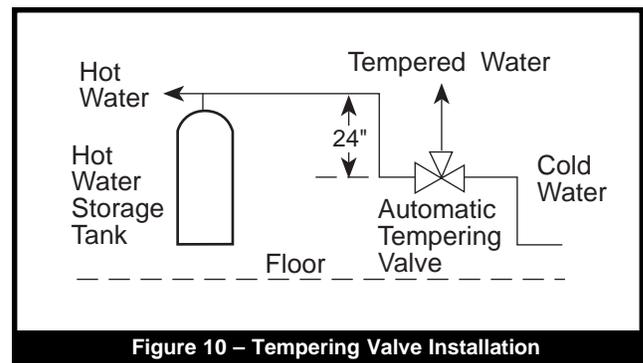

Figure 10 – Tempering Valve Installation
8. When installing a tempering valve, place at bottom of antithermosyphon loop at least 24" high to prevent excessive hot water from entering mixed water supply. Bring the cold water supply up from the floor to the valve. (See **Figure 10**)